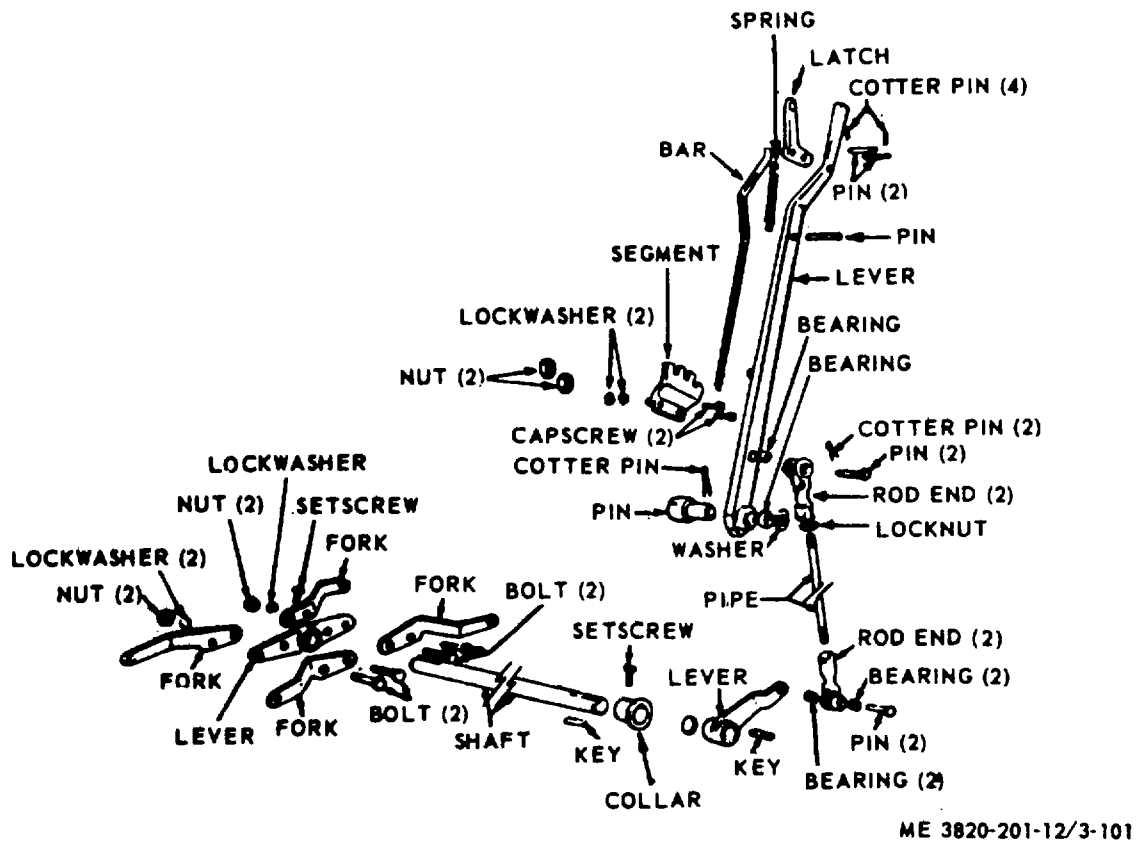

Figure 3-88. Swing and propel shifter lever and linkage, removal and installation.
(1) Refer to figure 3-88 and remove swing and propel shifter lever and linkage.
(2) Install in reverse order.